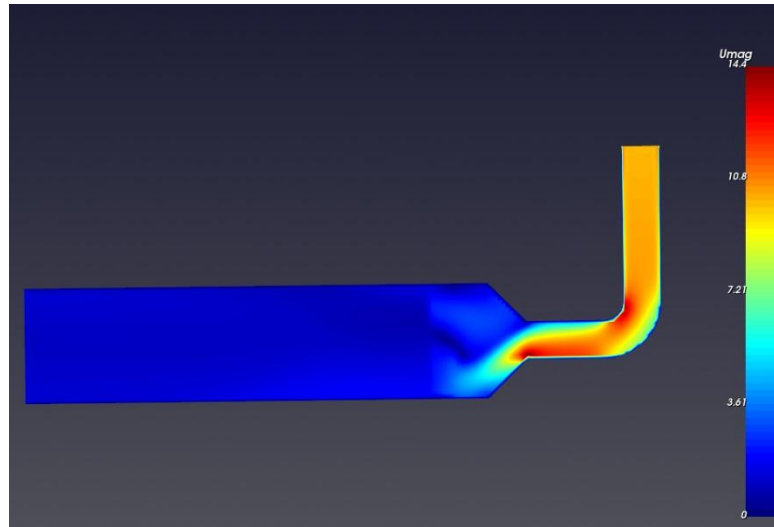

Figure 87. Velocity magnitude contour on the XY plane.
Create a default plane (XY) in **Post entities** panel and visualize Velocity magnitude ( $|U|$ ) (Figure 87).